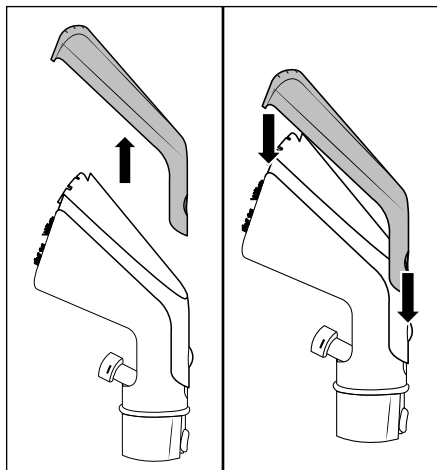

Fig. 9
- ◆ Press the locking button 24 on the cleaning attachment cover 23 of the upholstery nozzle 22 and pull off the cleaning attachment cover 23 (see Fig. 9).
- ◆ Place the cleaning attachment cover 23 on the upholstery nozzle 22 and push it down until the locking button 24 engages in the upholstery nozzle 22 (see Fig. 9).